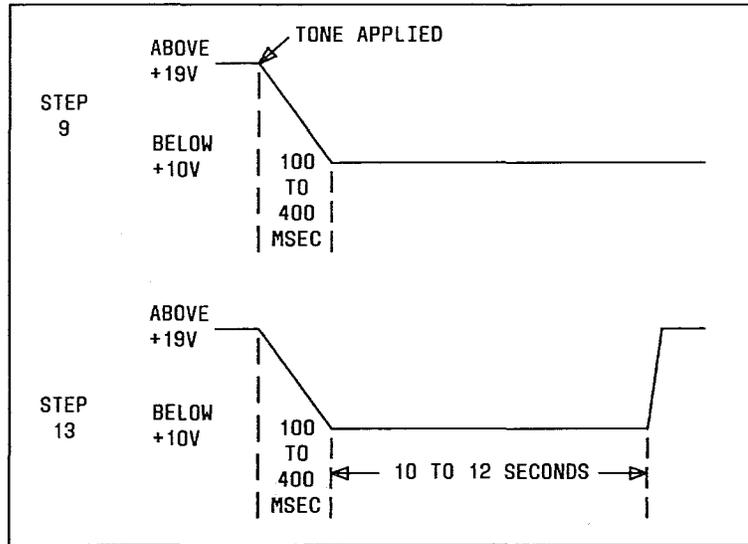

Fig. 18 — Example of Voice Detection Test Characteristics
5. At oscillator, adjust **FREQUENCY - CPS** for **1000** Hz and **OUTPUT-LEVEL** for **RMS VOLTMETER (VM)** indication of 0.095 volt
9. Does oscilloscope indicate a decrease below +10 volts within 100 to 400 msec after tone is applied (Fig. 18)?
13. Does oscilloscope indicate a decrease from +19 volts to below +10 volts for 10 to 12 seconds (Fig. 18)?